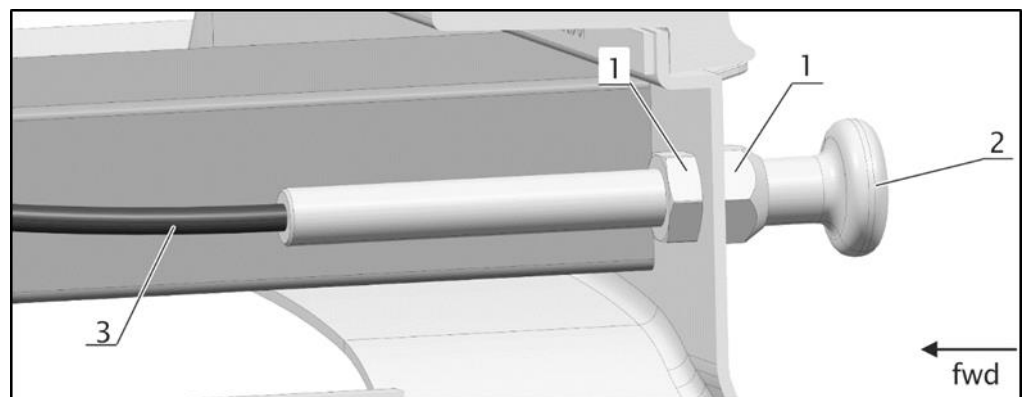

Fig. 2
- ▶ Pull the throttle control to the stop. The throttle lever on the carburetor (5) must be on the stop (see Chapter 72-00, Figure 2). The Bowden cables must be supported in the terminals.
- ▶ Release the nut on the control lever (5) and take up any slack on the cable and tighten up the nut.
- ▶ Set the choke lever to the stops position and put it back about 3 mm (1 / 8 in). The lever of choke control on the carburetor (6) must be on the stop (see (see Chapter 72-00, Figure 2)). The Bowden cable must rest on the terminals.
- ▶ Release the bolt on the lever of choke control (6), slightly loosen the cable and tighten up the bolt.
see Fig. 2.